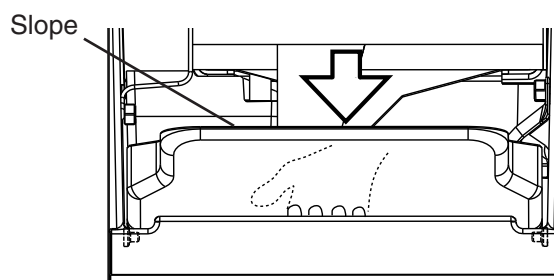

Fig. 48
17) Replace the slope in its correct position. See Fig. 48.